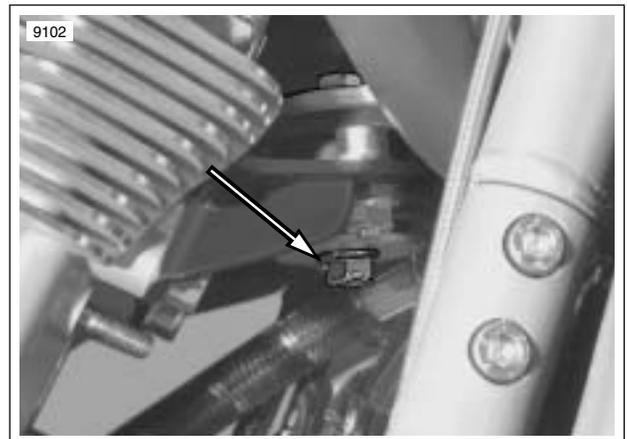

Figure 1-63. Front Engine Mount Bolt
- See Figure 1-63. Loosen front engine mount bolt and retract jack to allow the engine to drop down approximately 13 mm (1/2 in.).